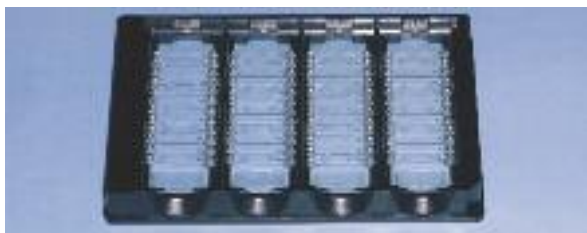

Figure 1: The image shows four CrystalSlides™ in a slide holder.
* All data and images (except Fig. 1 - 3) refer to the CrystalSlide™ prototype with 10 instead of 12 channels.